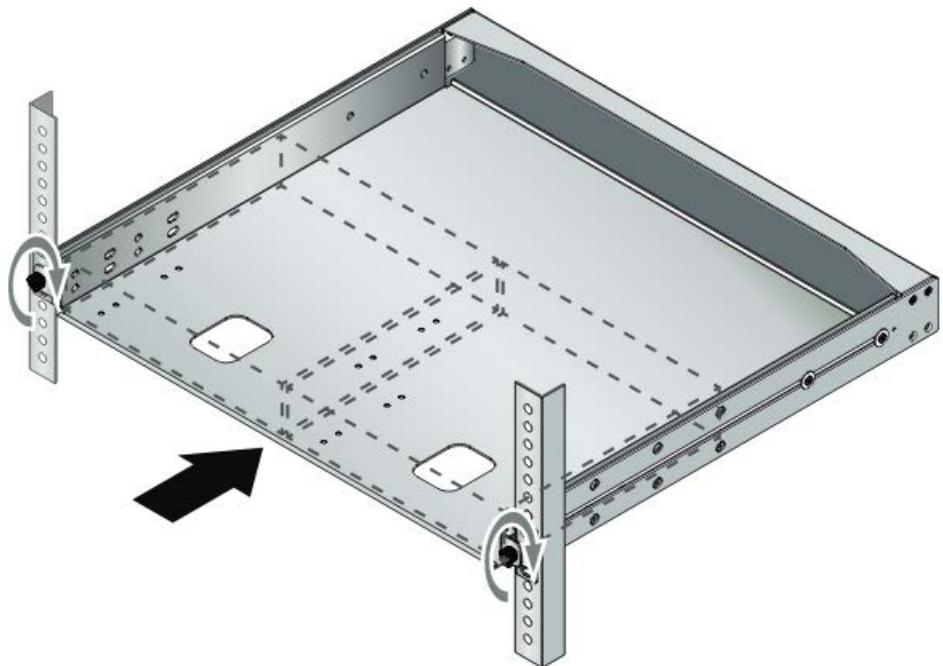

Figure 42. Securing the RKMT-J15 Tray in an Equipment Rack
6. Slide the tray back to its original position and turning the tray fixing screws on clockwise as shown in Figure 42.